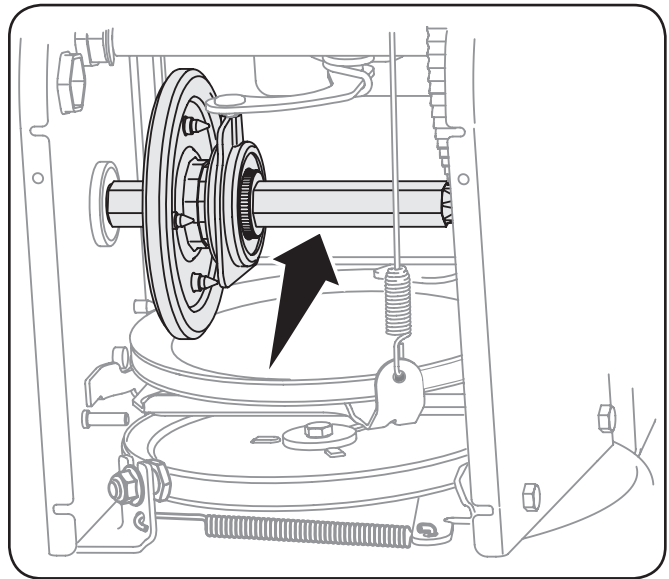

Figure 6-2
4. Apply a light coating of Regular Grade Anti-Seize to the hex shaft. See Figure 6-2.